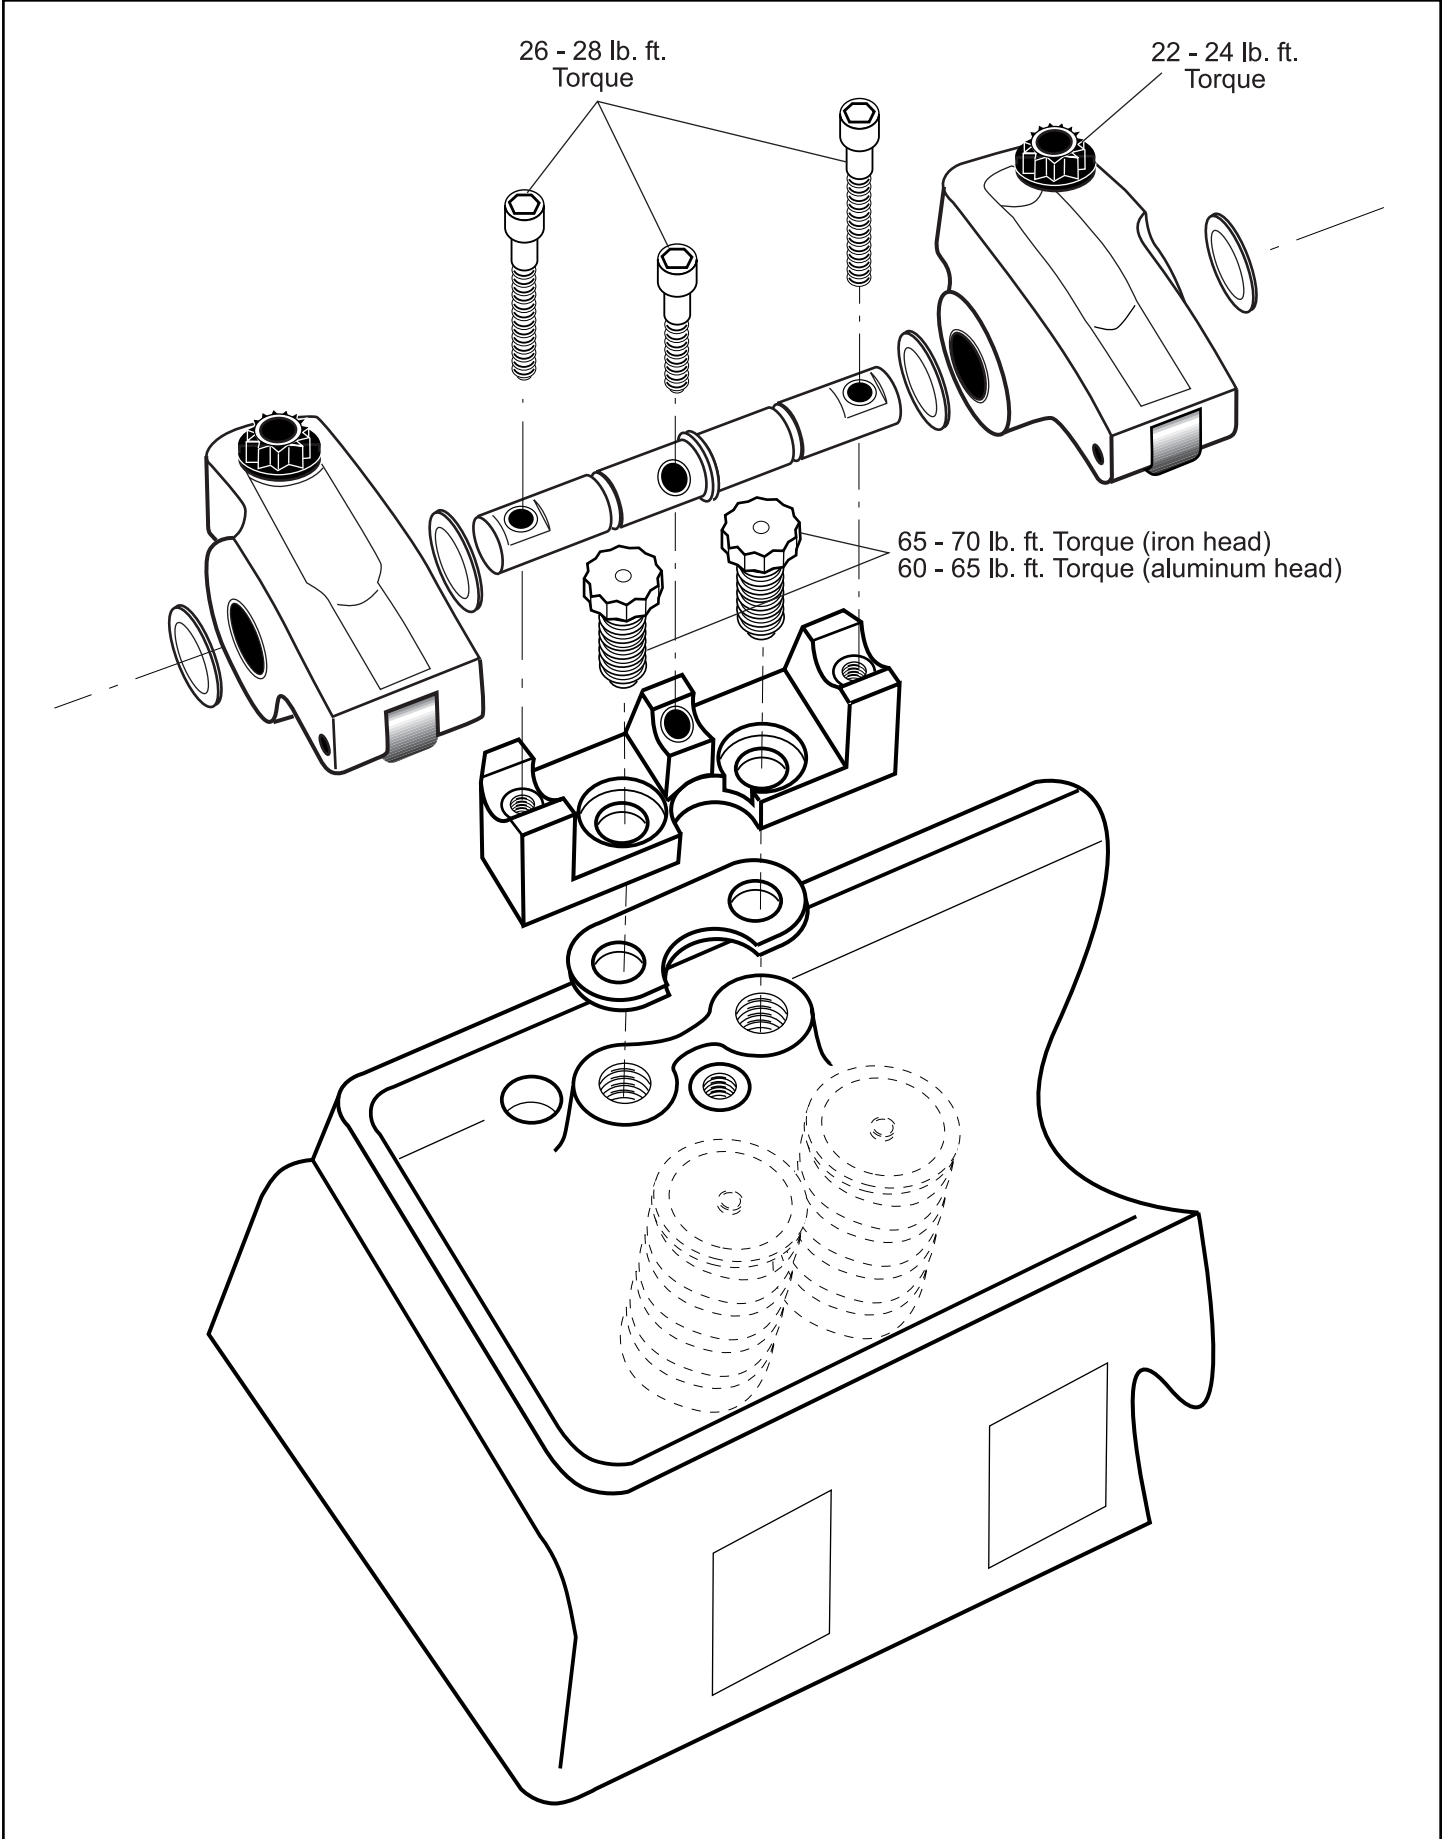

Figure 4.
**Figure 4**) using oil as a lubricant. (Shake excess oil from threads so that no oil accumulates in the bottom of the stud holes causing the bolts to hydraulic before adequately securing the stands to the heads)
10. Lube the two long and one short shaft bolts and install and torque to spec. (See fig. 4)